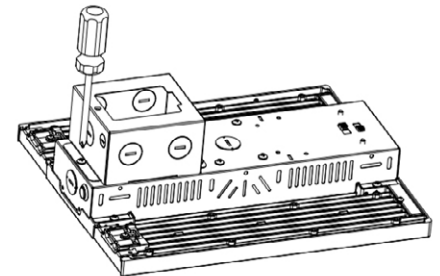

Figure 20
4. Align the junction box with the screw holes in the outlet holes of the driver box, then secure it with screws. (see Fig. 20)